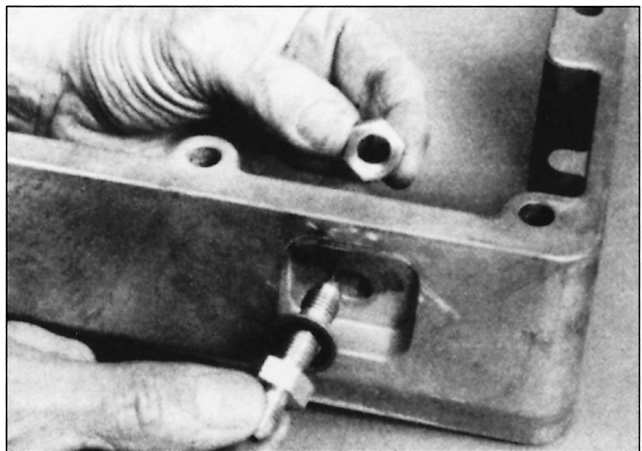

FIG. 9
2. Install bulkhead fitting with seal into hole in spacer as shown in Fig. 9. Seal must be located on the outside of the spacer. Install nut and torque to 25 lb.-ft. (34 N•m).